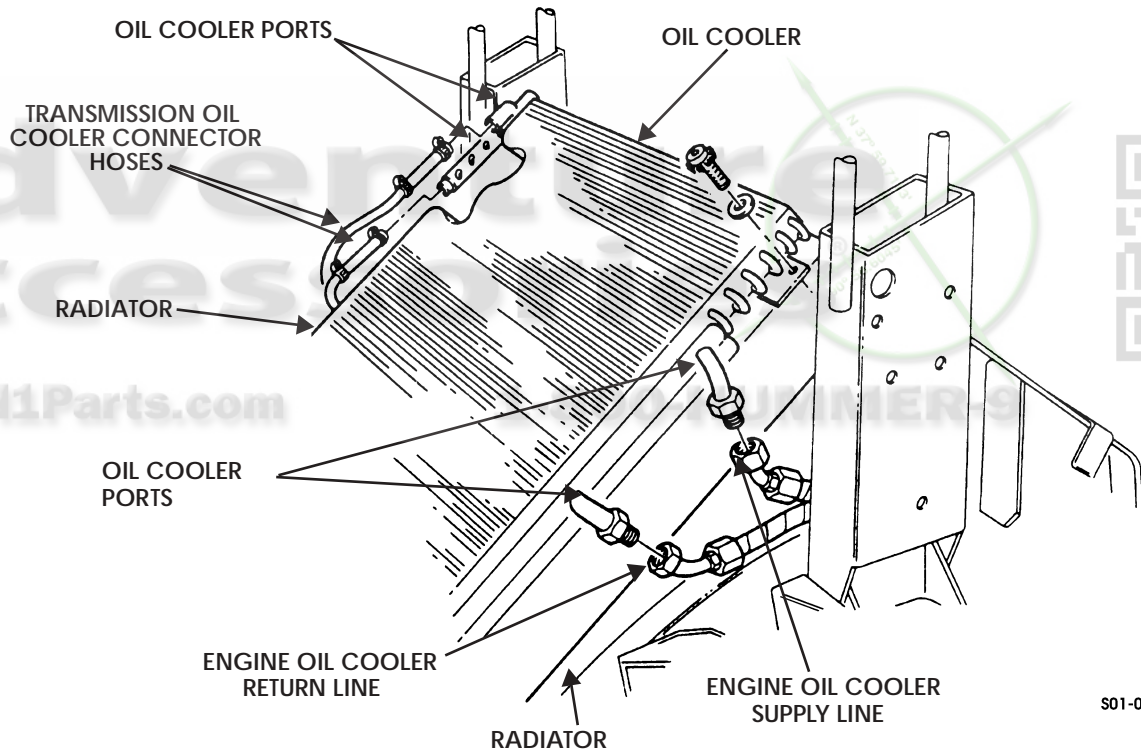

Figure 1-43: Engine/Transmission Oil Cooler Assembly
3. Disconnect engine oil cooler supply and return lines from oil cooler ports. Drain oil (Figure 1-43).
1. Install oil cooler on radiator with four washers and socket-head screw and washer assemblies (Figure 1-43).